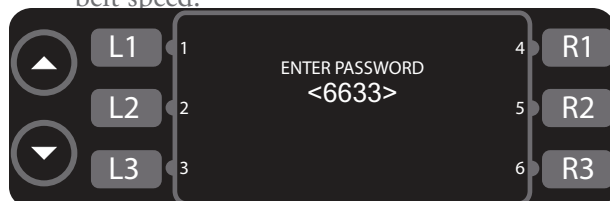

Figure 15: Password Screen
1. Press L3 (Figure 14) to access the password screen (Figure 15).